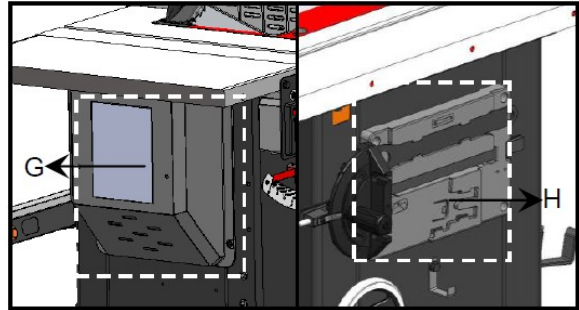
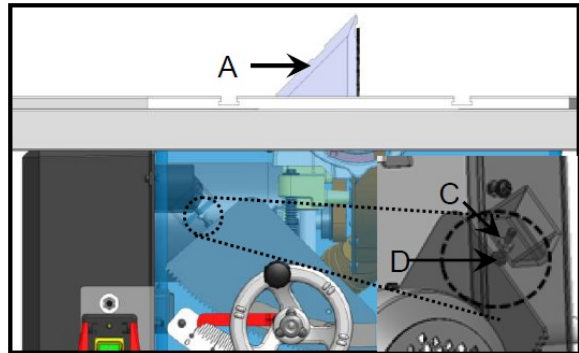

Figure 34
Figure 35
If the blade is at the correct angle at 90 degrees, remove the motor cover (G) figure 34 then loosen the hex nut (C) figure 35. Turn the 90 Deg. Stop screw (D) figure 35 under the table with a hex wrench. Then turn the hand wheel until the blade is at 90 Deg to the table surface. Re-tighten the 90 Deg. Stop screw and Hex Nut until a slight resistance is felt. Do not over-tighten.